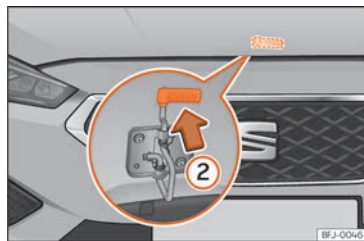

Fig. 221 Cam under the bonnet
- To lift the bonnet, press the release catch under the bonnet upwards » **Fig. 221 ②**. The arrester hook under the bonnet is released.